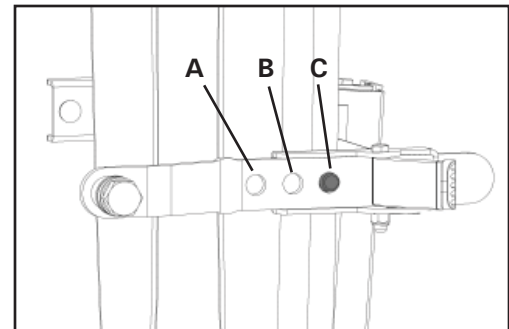

Figure 6
- Make sure the Roller Hinges are in the same hole setting on both sides. Figure 6 shows the Roller Hinges engaged correctly in setting C.